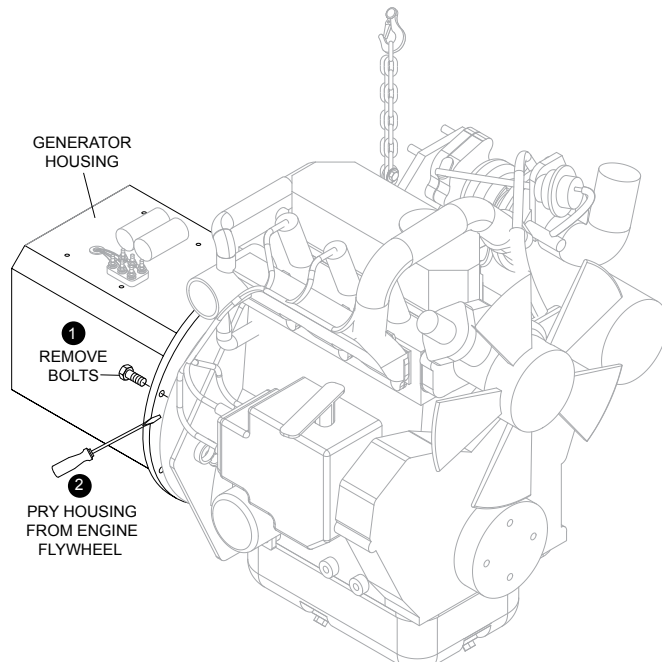

Figure 13. Pry Generator Housing from Engine
2. Remove bolts securing generator to engine. See Figure 13.
3. Use screw driver or pry bar to pry generator housing from engine flywheel. Use force. See Figure 13.